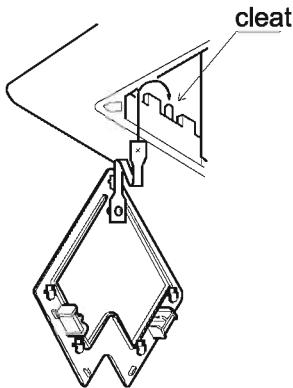

Fig.6
(2) For Model AB182~482MEERA units, the corner covers should be mounted on the corners.
- ① Tie the thread of the corner cover onto the cleat on the decorated board as shown in Fig. 6.